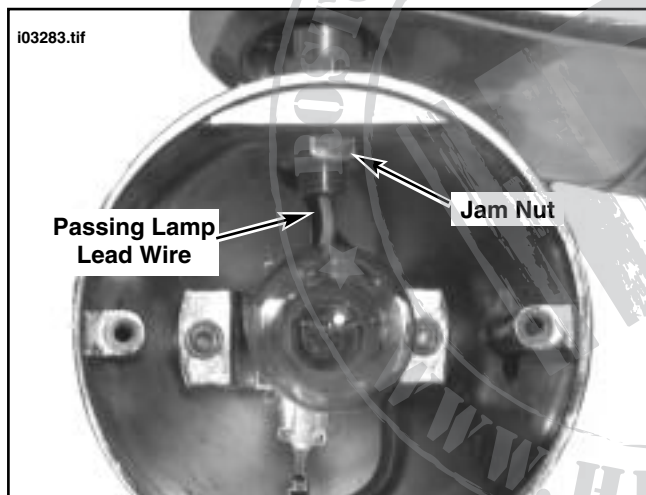

Figure 6. Install Jam Nut
- See Figure 6. Once directional is snug, back it off slightly to align the entire assembly. Install passing lamp wire through jam nut (P/N 7912) and snug nut into place.
19. See Figure 6. Once directional is snug, back it off slightly to align the entire assembly. Install passing lamp wire through jam nut (P/N 7912) and snug nut into place.